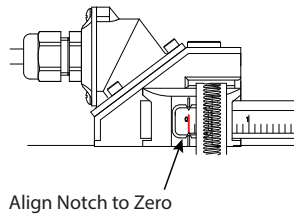

Figure 12: Align to zero
8. Place the first transducer at the zero point on the scale. Slide the clamp over the transducer. Adjust the clamp and transducer so the notch in the clamp aligns with the zero on the scale. See Figure 12.